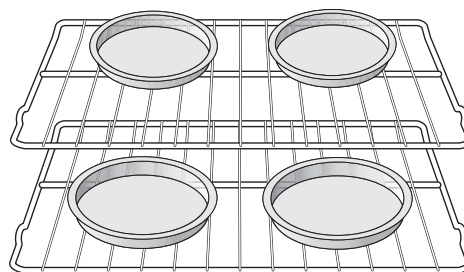

Figure 17: Baking on multiple levels
- For best results when baking cakes or cookies using two oven racks, place pans as shown in Figure 17.